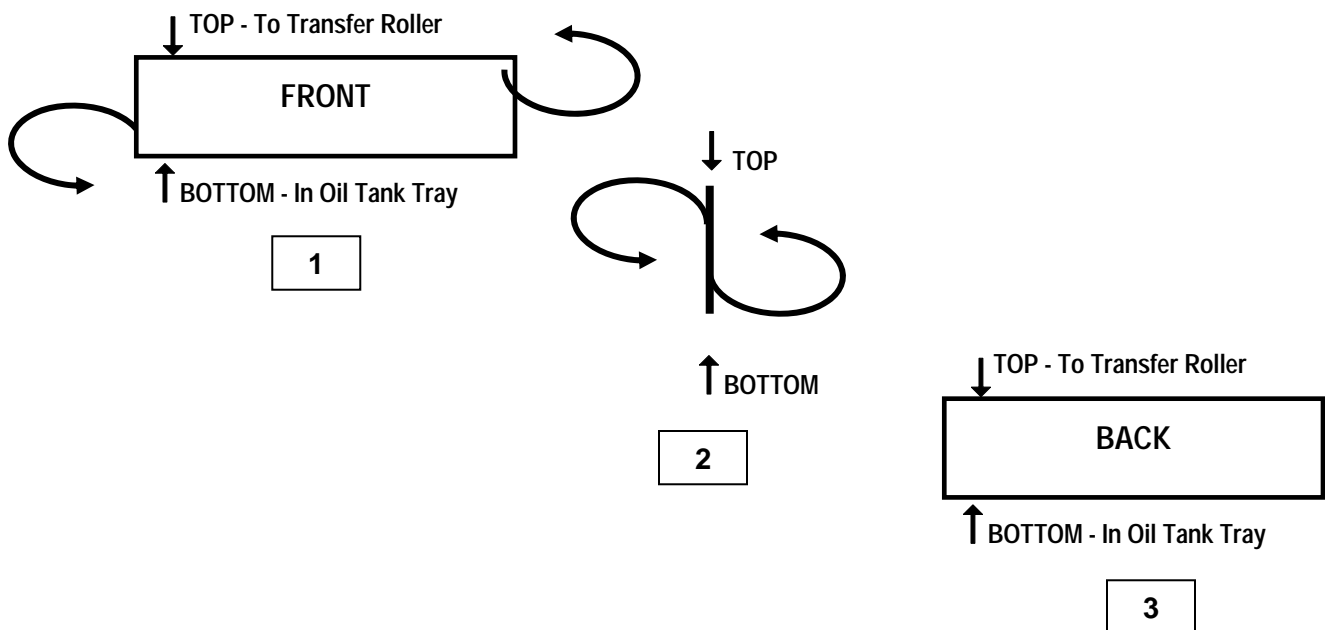

Figure 3-11
6. Turn the wicking foam side to side. The result will be that the front face becomes the back face with the top remaining at the top and the bottom remaining at the bottom, as shown in Figure 3-11. Put the turned wicking foam back into the oil tank tray. Repeat this step for the other wicking foams. Ensure the wicking foams line up evenly across the top, with 1-3/8 inches of wicking foam showing above the tray edge, and that they are firmly seated in the oil tray.